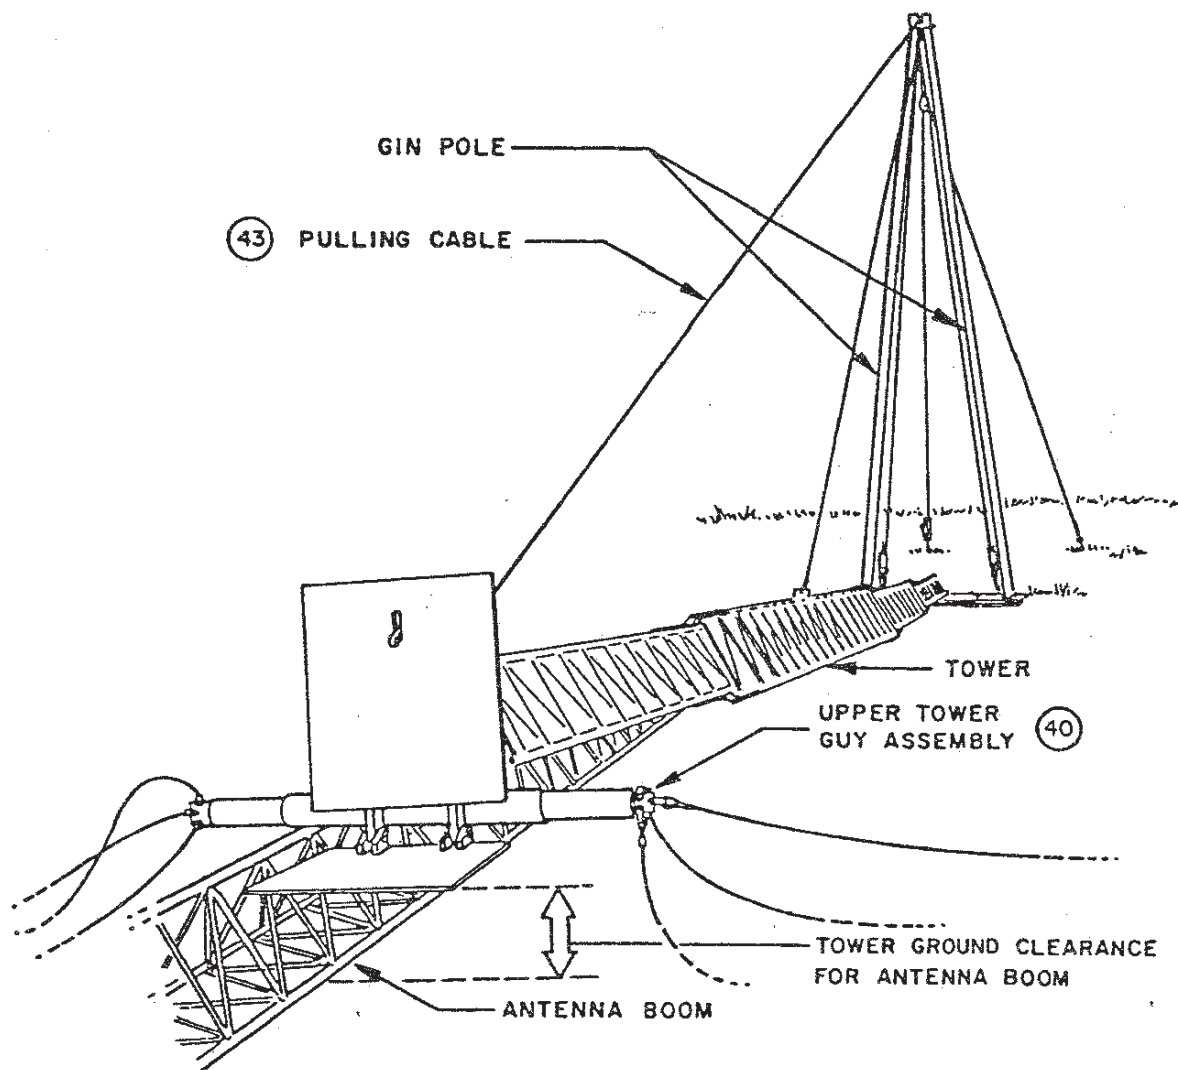

Figure 2-32
- b. The griphoist operator will raise the tower and rotator two or three feet off the ground with the griphoist to allow the two sections of the antenna boom to be easily slid under the tower (Figure 2-32).